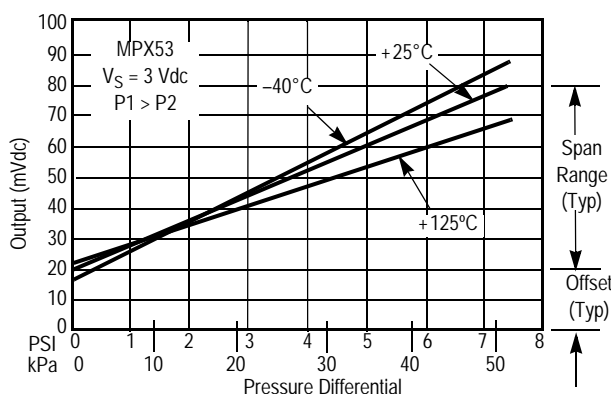

Figure 3. Output vs. pressure differential
Figure 3 shows the typical output characteristics of the MPX53 series over temperature.
Linearity refers to how well a transducer's output follows the equation:  $V_{OUT} = V_{OFF} + (\text{sensitivity} \times P)$  over the operating pressure range (see Figure 3). There are two basic methods for calculating nonlinearity: (1) end point straight line fit or (2) a least squares best line fit. While a least squares fit gives the "best case" linearity error (lower numerical value), the calculations required are burdensome.